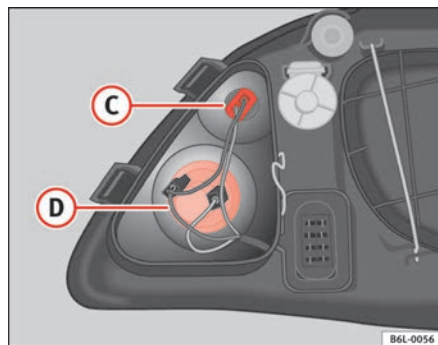

Fig. 149 Indicator lights
- Turn the lamp holder to the left and remove it from the casing ⇒ fig. 149 (D).